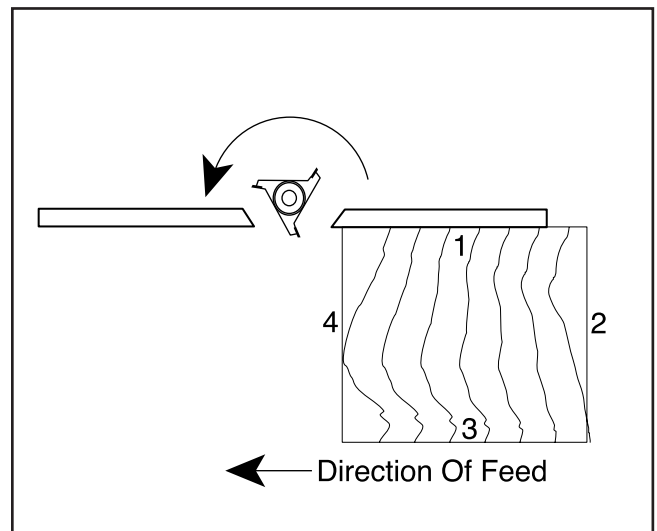

Figure 23. Sequence for multiple cuts.
5. Always cut the end grain first (as shown in **Figure 23**) when putting an edge around the perimeter of your workpiece.